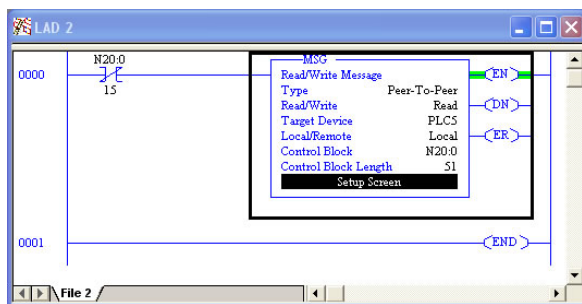

Figure 116: Completed PLC Program
7) **The program is now complete. Refer to Figure 116.**